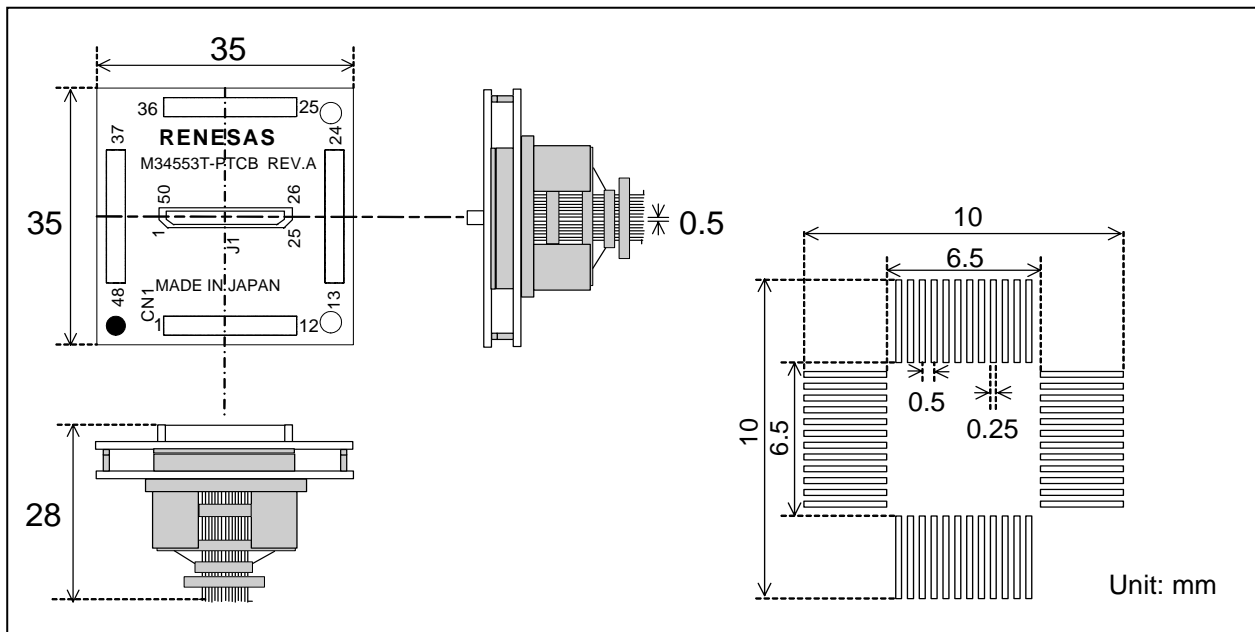

Figure 4 External dimensions and a sample foot pattern
6. External Dimensions and a Sample Foot Pattern (see Figure 4)